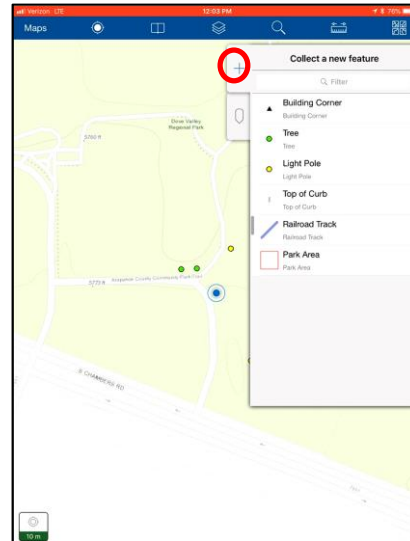

Figure 6
6. Open your Map and choose to **Add** a Point feature (Figure 6)